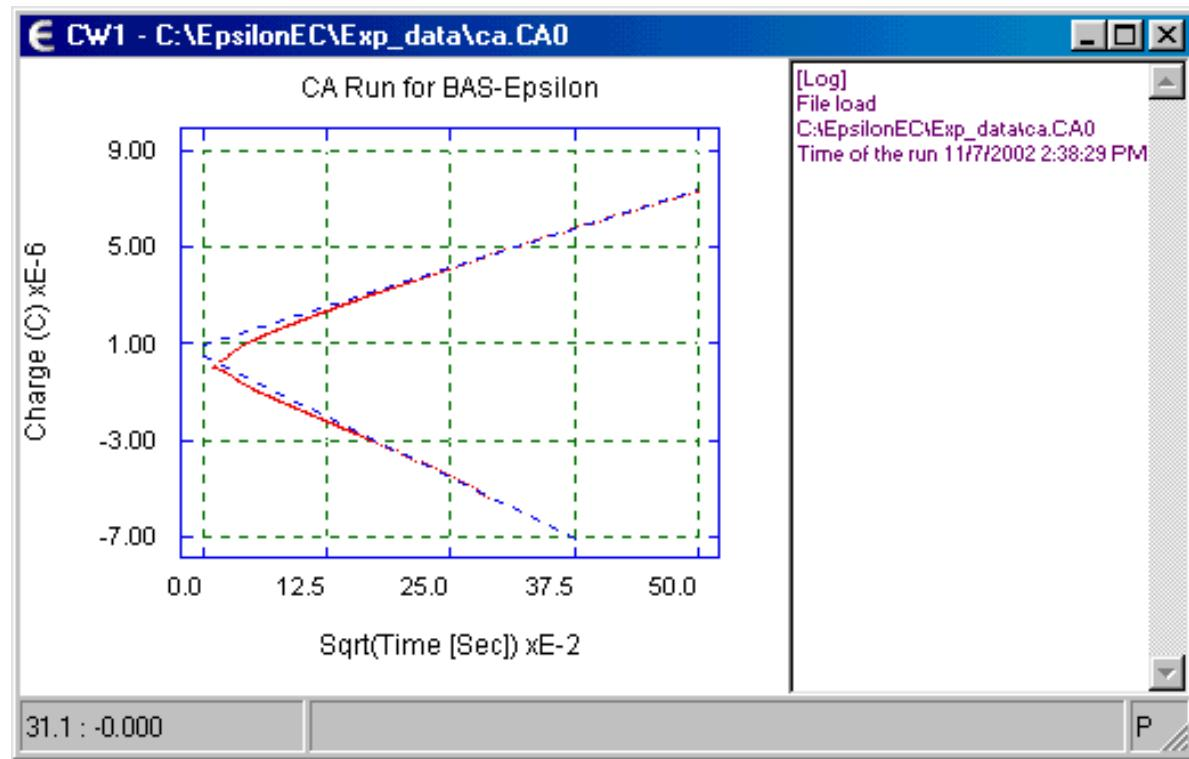

Figure 15. Q vs. \sqrt{T} plot for Chronoamperometry/Chronocoulometry.
15. The data from a **Chronoamperometry/Chronocoulometry** experiment can be plotted in a number of different formats, which can be selected using **Select Graph** in the pop-up menu in the **Chronoamperometry/Chronocoulometry** experiment window. The **Q vs. sqrt(T)** plot is shown in **Figure 15**.
16. The epsilon software can calculate the slope and intercept of the linear Q vs \sqrt{T} plot when it is displayed. Selecting **Data - Calculate CA-SIR** from the pop-up menu generates the information box shown in **Figure 16**. The lines used for the linear fitting are the dashed blue lines in **Figure 15** (note that the first 20% of the data points are not used in the calculation, due to interference from the charging current and other experimental artifacts).